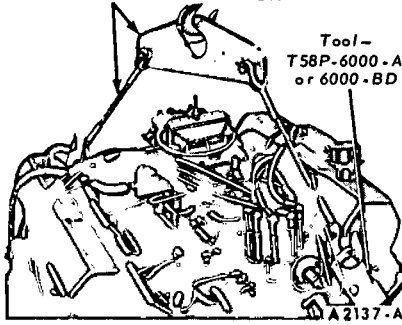

FIG. 70—Typical Engine Lifting Bracket and Sling
11. Lower the vehicle, then support the transmission. Install the engine left lifting bracket on the front of the left cylinder head, and install the engine right lifting bracket at the rear of the right cylinder head, then attach the engine lifting sling (Fig. 70).
1. Attach the engine lifting brackets and sling (Fig. 70).
14. Lower the vehicle and support the transmission. Install the engine left lifting bracket on the front of the left cylinder head, and install the engine right lifting bracket at the rear of the right cylinder head, then attach the engine lifting sling (Fig. 70).
2. Attach the engine lifting brackets and sling (Fig. 70).